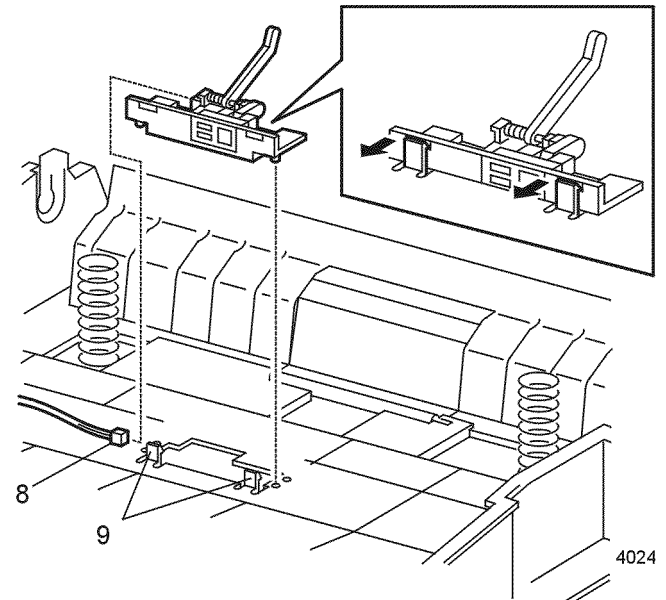

Figure 3 MBF No Paper Sensor Assembly
8. Disconnect P/J125 from the MBF No Paper Sensor Assembly (Figure 3).
9. Release the two locking tabs on the bottom of the Sensor Assembly and remove the sensor (Figure 3).